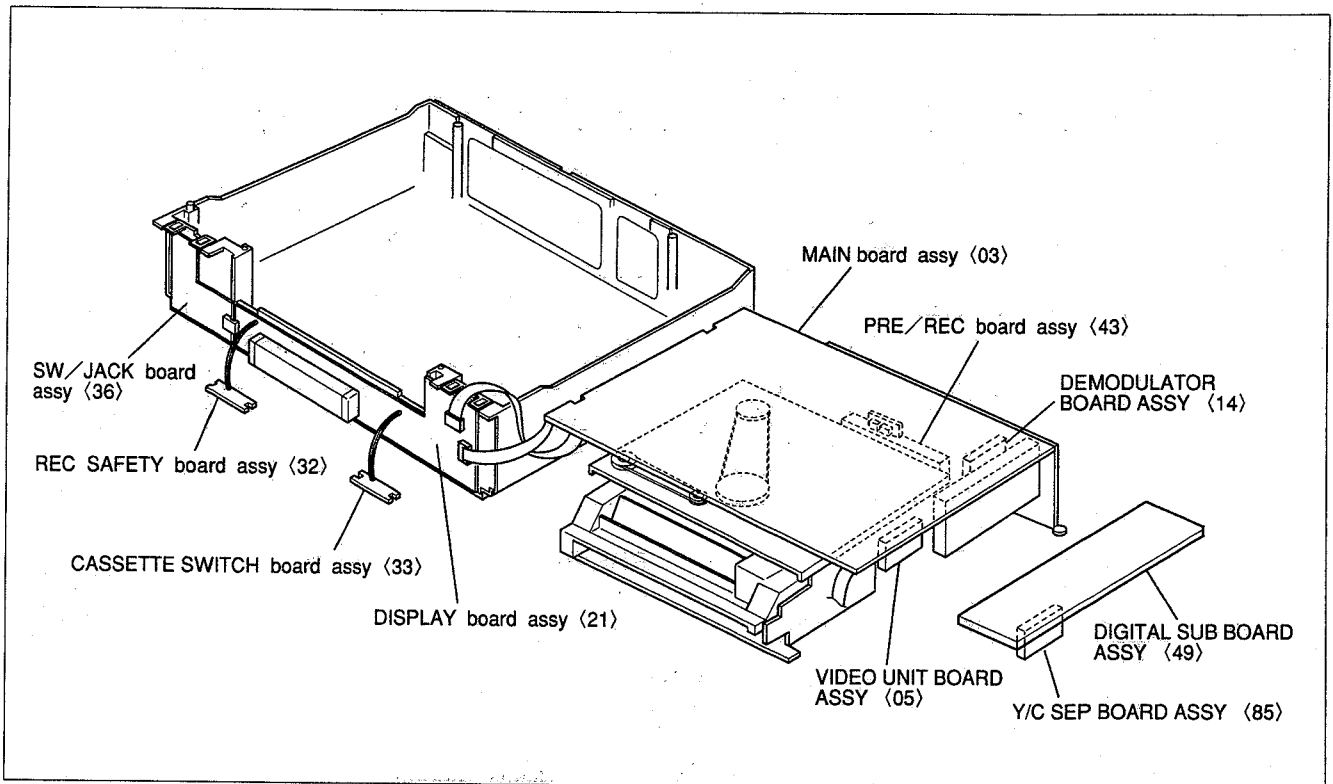

Fig. 1-5-3
- (5) Turn over the Mechanism assy and Main board assy then connect CN5 and CN3 of the DISPLAY board assy.
- (6) Carry out checks & repairs as necessary as shown in Fig.1-5-3.